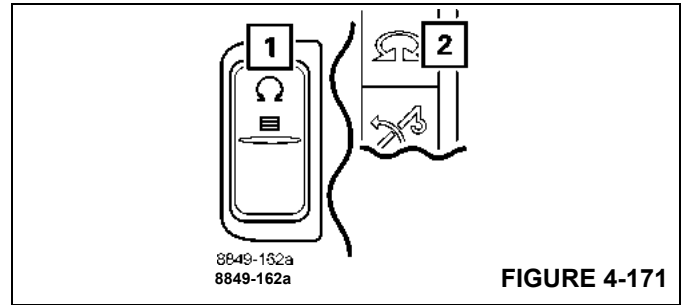

FIGURE 4-171
- Press the button (1), (Figure 4-171) once.
- Symbol (2), (Figure 4-171) is green if the swing gear is switched on.